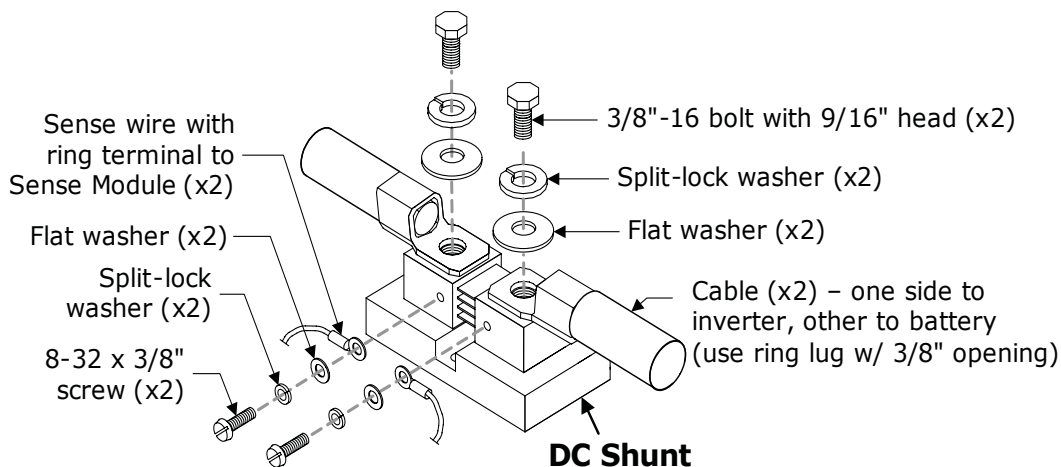

Figure 2-2, DC Shunt Connections
2. Wire the other side of the DC shunt (battery side) to the battery negative terminal. Connect cables/hardware to the shunt exactly as shown in Figure 2-2.